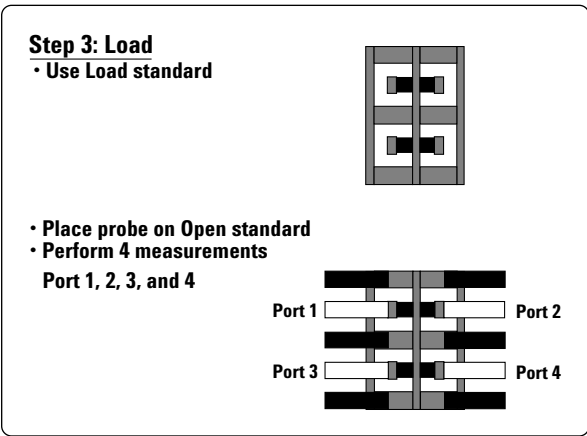

Figure 13. Load calibration
4. The load calibration also is performed for each test port by using the precisely trimmed loads ( $50 \Omega \pm 0.3\%$ ) on the ISS. Refer to Figure 13.